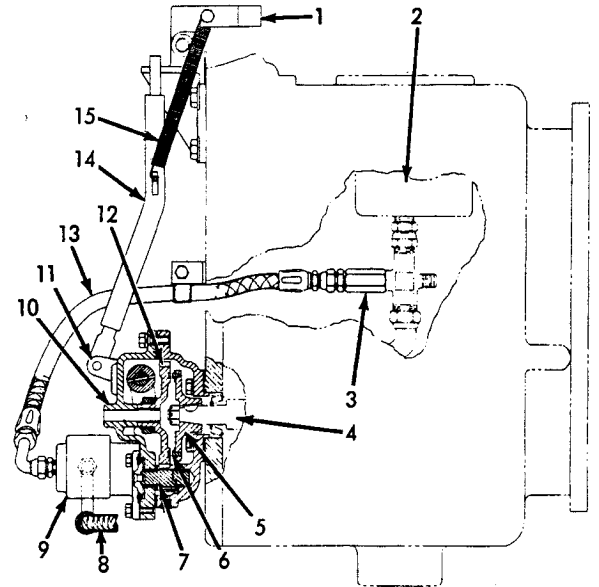

Fig. 18 -- Push-Start Pump and Controls (T-32152)
Pump supplies oil to hydraulic system when tractor is pushed or towed to start engine. Pump is driven from reverse shaft but operates only when drive, Fig. 18, is engaged by operator. Check valve, Fig. 18(3) opens only when push-start pump is operating.
Before installing pump, remove and inspect check valve, Fig. 18(3). Valve must open at 1 to 5 psi from male end and must not leak from female end.